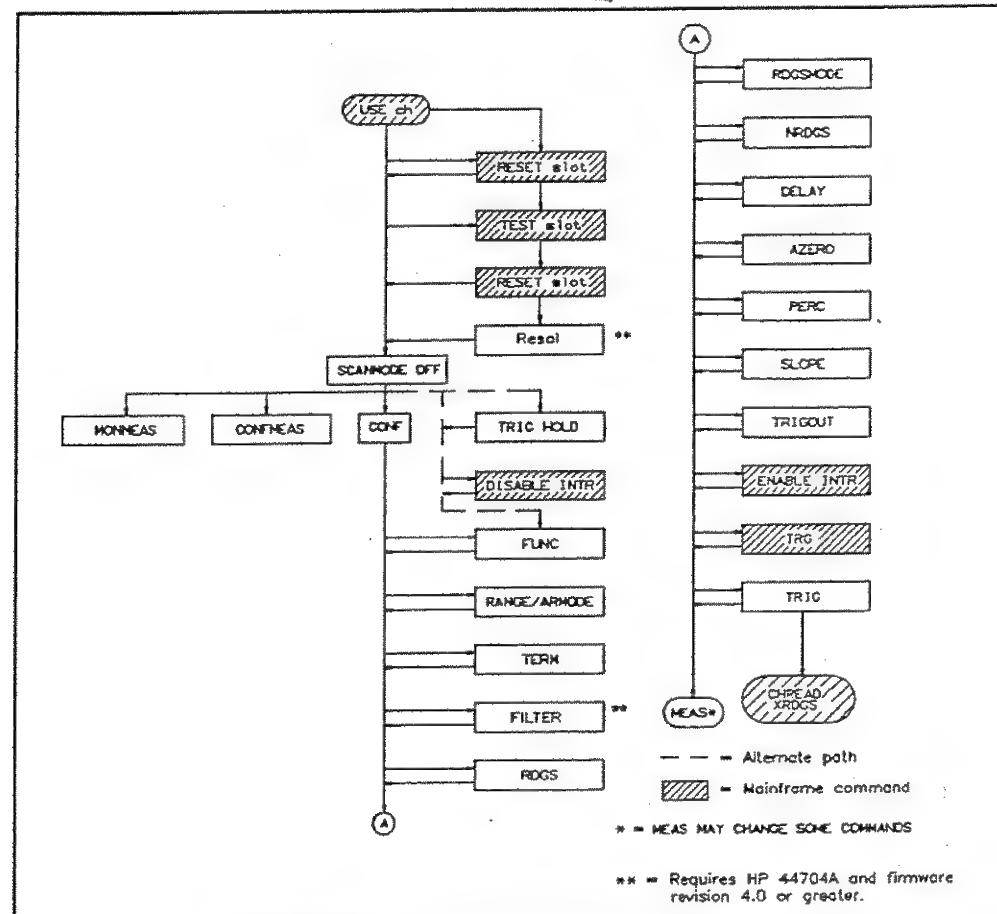

Figure 4-1. System Mode Measurements
Figure 4-1 shows a suggested programming sequence for System Mode measurements. There are three primary methods of programming (other than using MONMEAS): (1) use CONFMEAS; (2) use CONF and MEAS along with low-level commands; or (3) use CONF and low-level commands (not using MEAS).
In Figure 4-1, solid lines indicate the preferred programming path, dotted lines indicate alternate paths, and striped boxes indicate a mainframe command. For example, for System Mode measurements using CONF and MEAS are required commands, while FUNC, RANGE, etc. are optional commands which can be used to modify the CONF settings as needed.